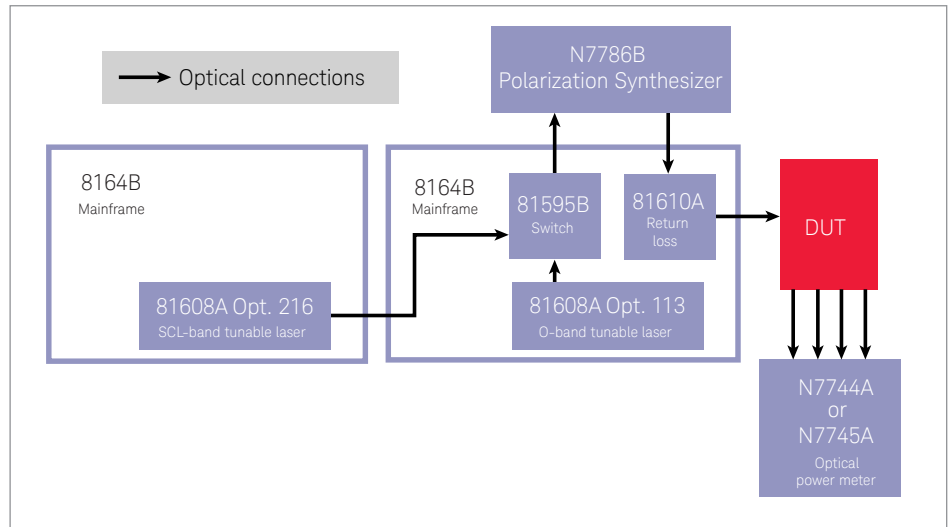
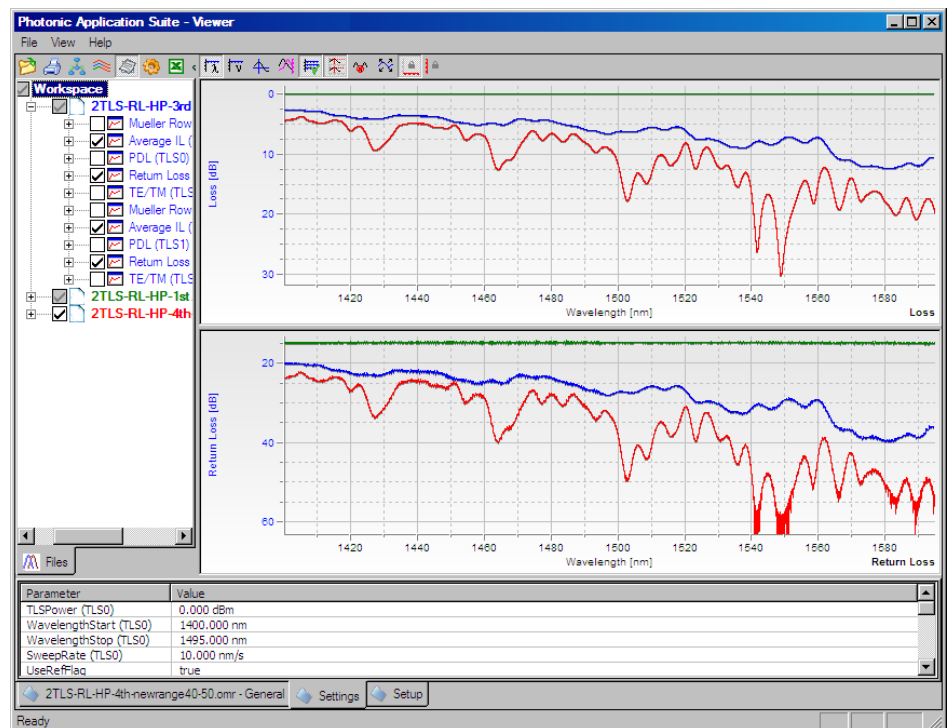

Figure 6. Example IL/PDL configuration using 2 switched lasers and the return loss module.
Figure 7. Sample measurements using two lasers to measure from 1400 to 1600 nm, including return loss.
- The wavelength range can be extended by using 2 or 3 tunable lasers, which can be chosen for the desired wavelength range. For example a configuration like in Figure 6 can be used for tests in the O-band, C-band and L-band by combining 2 or 3 8160x low-SSE lasers, even over the full 1260 to 1650 nm single-mode fiber wavelength range. The measurement runs automatically, like with a single laser, using the 81595B switch. Results are shown as a single graph, possibly with a gap or overlap between the measured wavelength ranges.
- Polarization-averaged return loss can be measured by including the 81610A (or other model) return loss module, as shown in Figure 6. An example including two tunable lasers is shown in Figure 7, where the insertion loss was progressively increased to increase the return loss from an open FC/PC connector. Here the RL range extends beyond 55 dB. In the diagram, the two laser wavelength ranges meet at 1495 nm. The 3 colored traces represent measurements with different insertion loss, adjusted by wrapping the fiber.